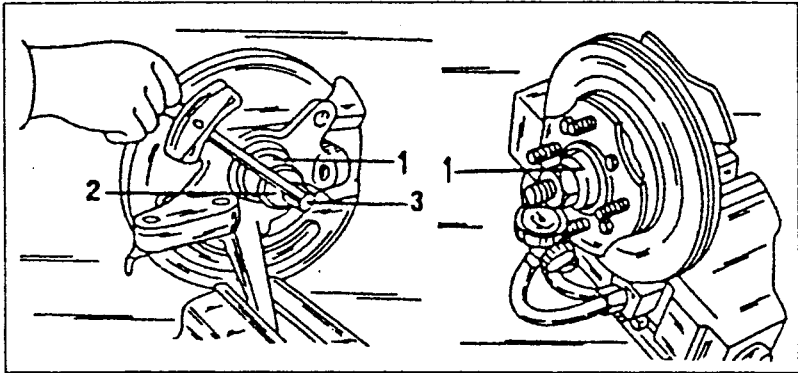

Fig. 9.12. — Checking the starting torque of the wheel hub (left) and the end play of the wheel bearings (right).
- Measure the wheel hub starting torque with a torque wrench as shown in Fig. 9.12 (left) and write down the value. It should be around 18 kg.cm. (16 in.lbs.) or less. Next the end float of the wheel bearings must be measured with a dial gauge, as shown in Fig. 9.12 (right). Move the hub to and fro (the extractor bolt must be still in position) and read off the dial gauge. The play must not exceed 0.2 mm (0.008 in.).